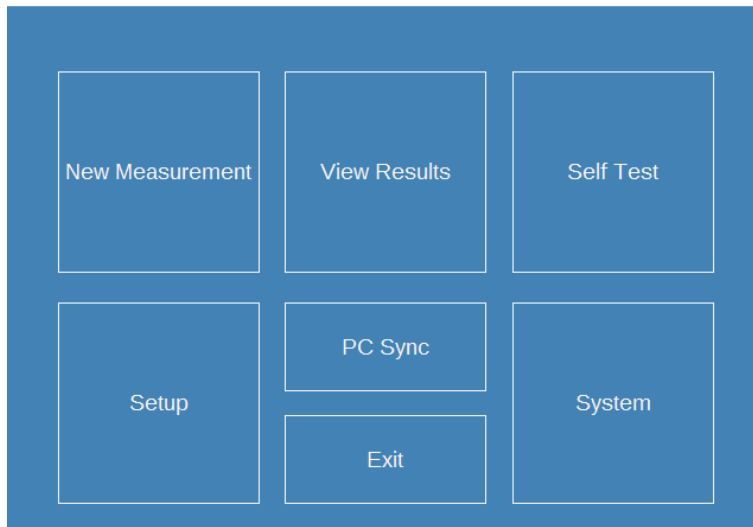

Figure 12-7: Main Menu
5. After the new calibration factors have been selected or entered, press **Home** to return to the Main Menu as shown in Figure 12-7.